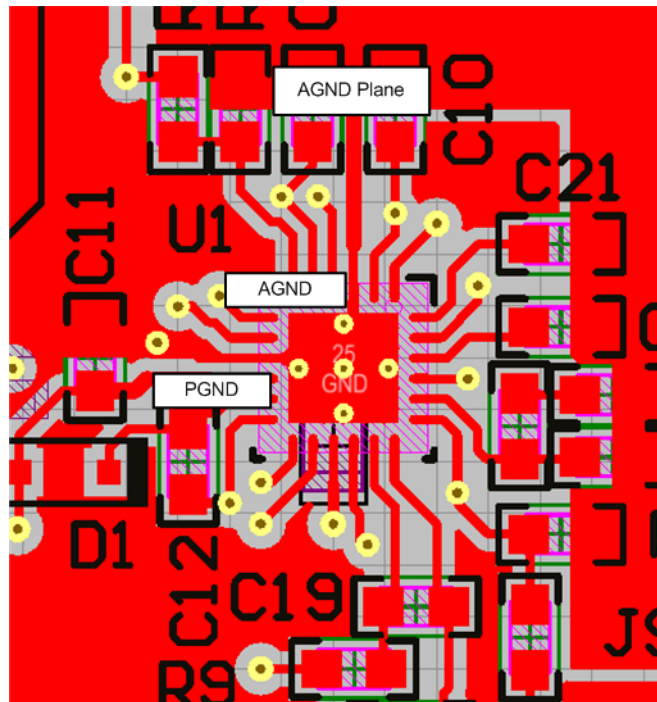

Figure 40. AGND and PGND Connections
- Make the PGND and AGND connections to the LM25141-Q1 controller as shown in Figure 40. Create a power grounds directly connected to all high-power components and an analog ground plane for sensitive analog components. The analog ground plane (AGND) and power ground plane (PGND) must be connected at a single point directly under the IC (at the die attach pad or DAP).